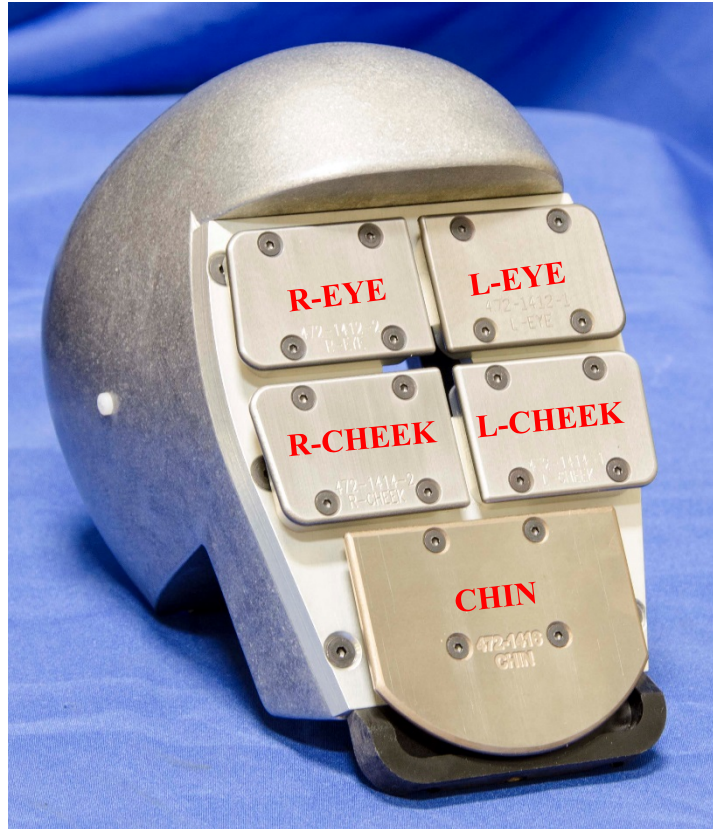

Figure 3-11. Face load cell plates
3.2.2.8 Install the respective load cell plates (472-1412-1, 472-1412-2, 472-1414-1, 472-1414-2, 472-1416) onto the face load cells using four M3 x 0.5 x 8 FHCS per plate (total of 20) (Figure 3-11). Each load cell plate is shaped differently to match the contour of the front of the head casting. Labels on the load cell plates: “L-EYE”, “R-EYE”, “L-CHEEK”, “R-CHEEK”, and “CHIN” describe the load cell attachment location on the face.